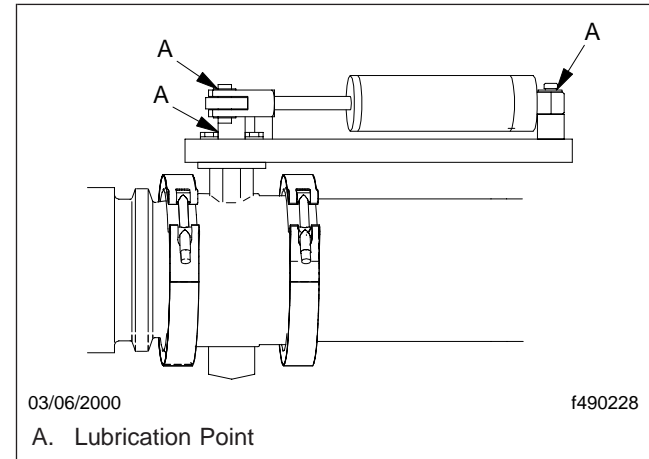

Fig. 4.5, Pacbrake Exhaust Brake and Air Cylinder
1. With the engine shut-down, use any oil-free or non-petroleum based high-heat lubricant and spray or coat a sufficient amount on the restricter valve shaft and the attaching locations at each end of the actuation cylinder. See Fig. 4.5.